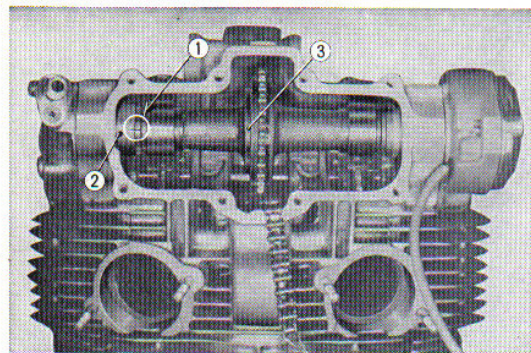

Fig. 3.21 Align the timing index mark
- (1) Align the timing mark on the right side of the respective camshafts to the timing index mark on the respective bearings (Refer to Fig. 3.21)